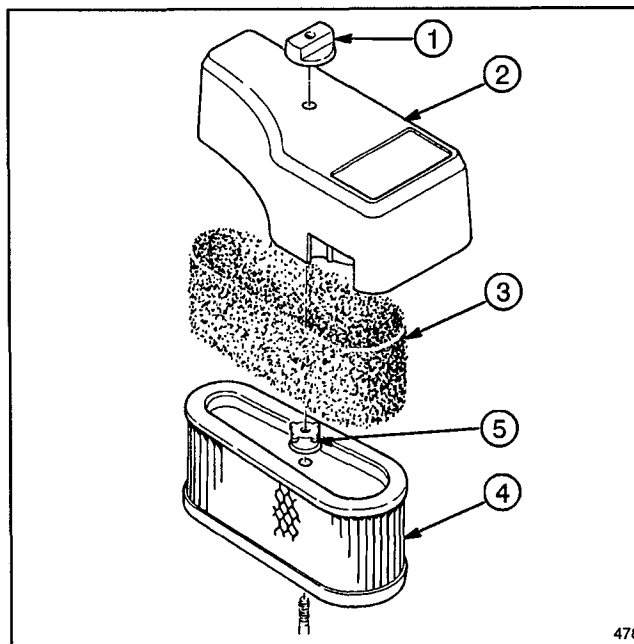

Figure 19
2. Remove knob and air cleaner cover (Fig. 19).
3. Every 25 hours the foam pre-cleaner should be cleaned (Fig. 19). Remove foam pre-cleaner by sliding it off the paper cartridge (Fig. 19).
4. The paper air cleaner cartridge should be replaced every 100 hours. Remove (1) one nut from top of paper cartridge (Fig. 19).